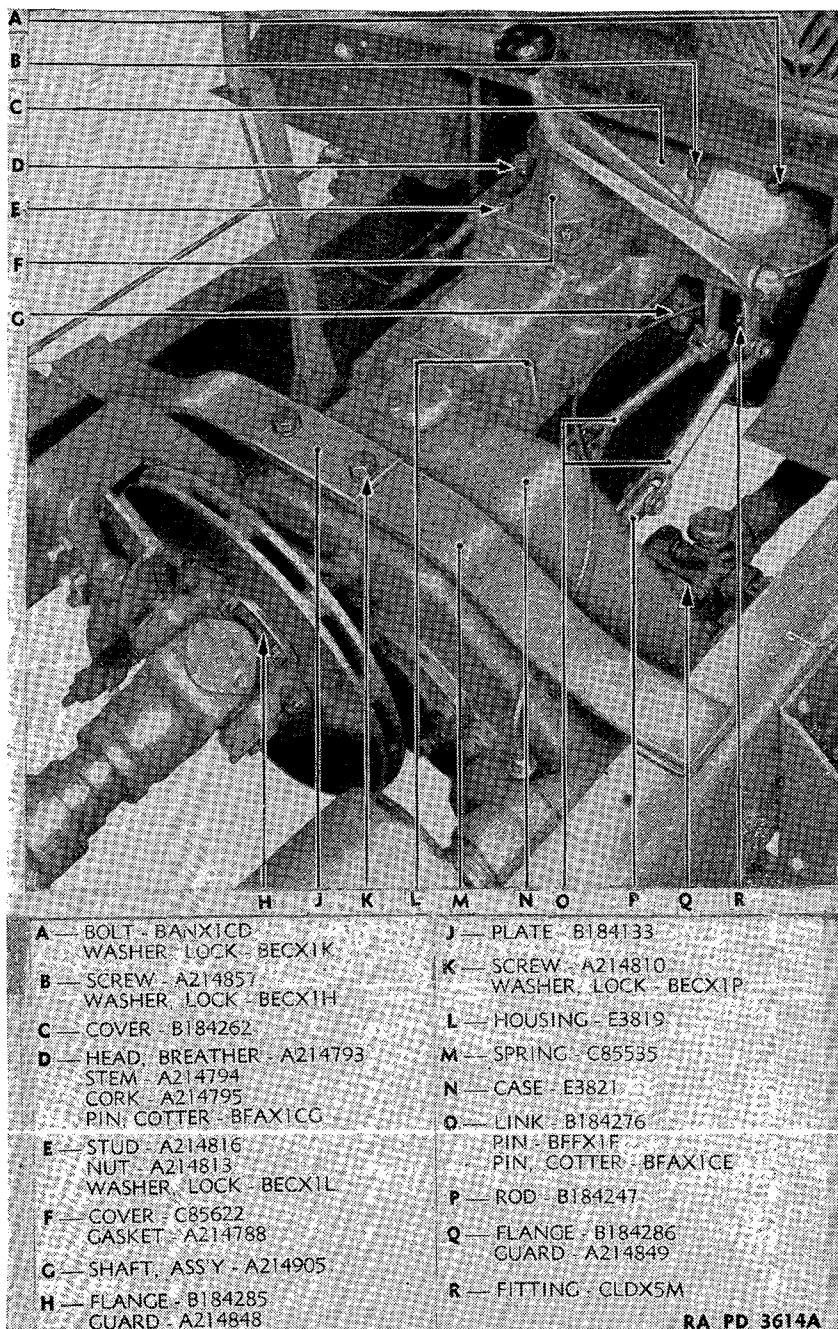

FIGURE 83.—Transmission assembly, installed.
**34. Removal of assembly** (figs. 83 and 84).—Tools:  $\frac{5}{8}$ -inch open end wrench,  $\frac{5}{8}$ -inch socket wrench,  $\frac{9}{16}$ -inch open end wrench,  $\frac{9}{16}$ -inch socket wrench, pliers,  $\frac{7}{8}$ -inch open end wrench, large pail, screw driver, jack, brass drift, hammer,  $\frac{3}{4}$ -inch socket wrench, 1-inch rope,  $\frac{7}{8}$ -inch socket wrench, chain block and hook,  $\frac{5}{16}$ -inch open end wrench, 1-inch socket wrench.
*c.* Disconnect speedometer cable—pliers,  $\frac{9}{16}$ -inch socket wrench,  $\frac{9}{16}$ -inch open end wrench. Remove round coupling nut holding speedometer drive shaft (A214905) to transfer case front drive shaft rear bearing cap (fig. 83). Remove two cap screws (BCAX1CC) which secure speedometer cable clips (A214906) to transmission, and remove clips.
*k.* Disconnect transmission support spring and spring pressure plate— $\frac{7}{8}$ -inch socket wrench. Remove two cap screws (A214810) and lock washers (BECX1P) holding support spring (C85535) and pressure plate (B184133) to transmission (fig. 83).